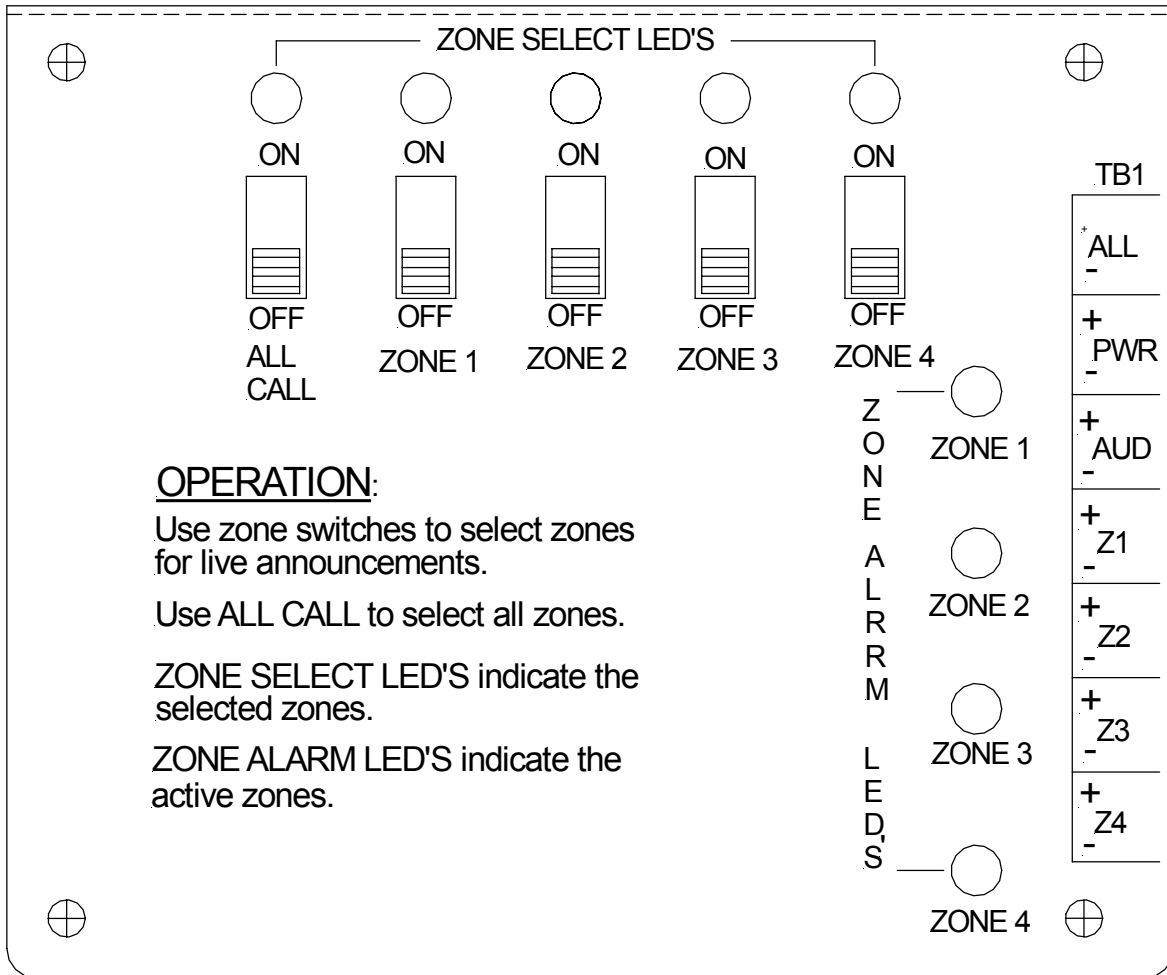

Figure 4.
2. See Figure 4 or the Four Zone Splitter cover silkscreen for terminal block wiring designations.
When making a live emergency announcement from the Single Circuit SAFEPATH panel, use the Four Zone Splitter's four zone ON/OFF switches to select the zones to which the audio will be broadcast or use the ALL CALL switch to select all of the zones. To select a zone, slide the zone ON/OFF switch up to the on position (Figure 4). The ZONE SELECT LED associated with the zone switch will be lit if the zone is selected. The ZONE ALARM LED's indicate to which zones audio is currently being broadcast. **The splitter will allow zone selection of live announcements only.** Automatic or manual alarm operation will be through all zones.